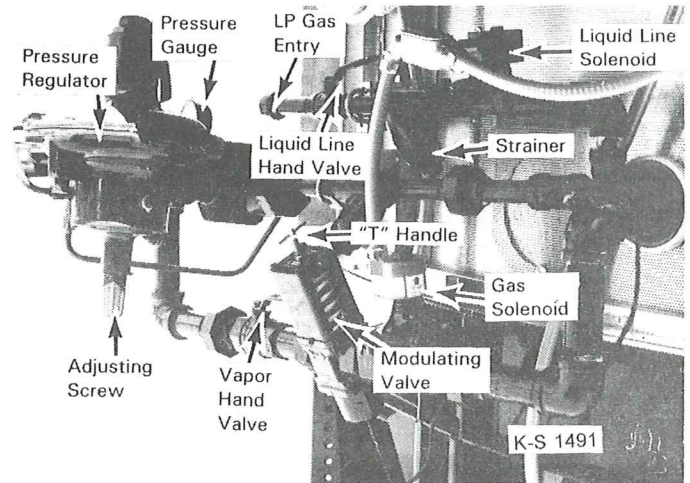
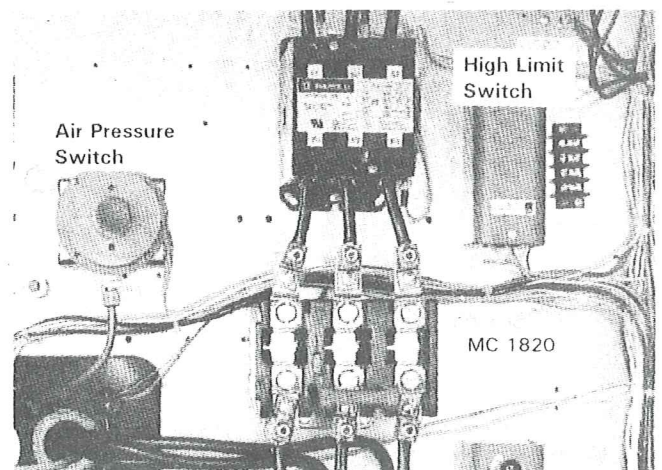

Figure 45 - LP Gas Manifold 101050
Figure 47 - Standard Cabinet Inside
- B. Turn the vapor hand valve (Figure 45) 90° to the piping to shut off the gas to the burner.
3. Natural Gas (NG) Fuel:
4. Adjust the high limit thermostat (Figure 47), located in the upper right side of the control cabinet, 30-50° above the desired drying temperature or just enough to avoid nuisance shutdowns. (See Recommended Drying Temperatures, page 42)